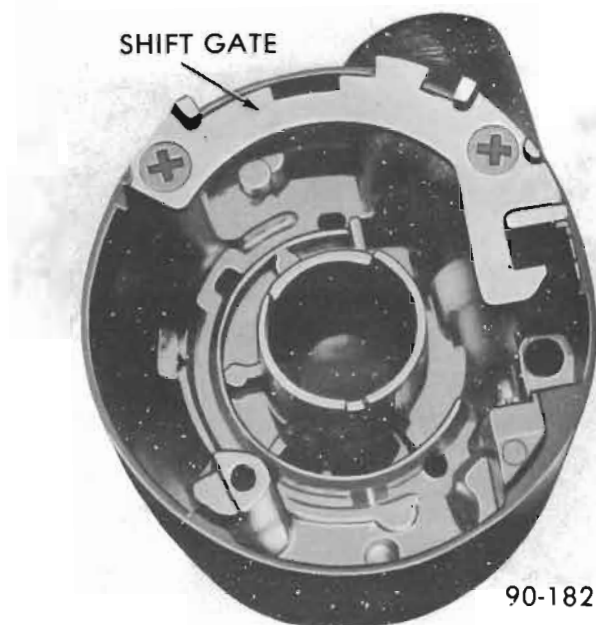

Figure 90-92 Removing Shift Gate
19. Remove the shift gate. See Figure 90-92.